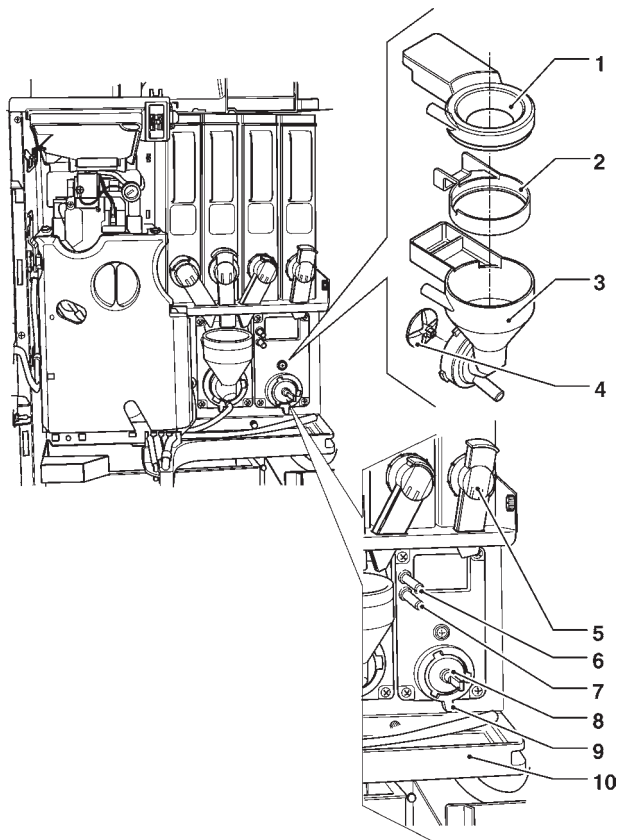

Fig. 33
- Remove (see Fig. 33) the powder funnels, the water conveyors, the powder deposit funnels and the mixer fans from the mixers;